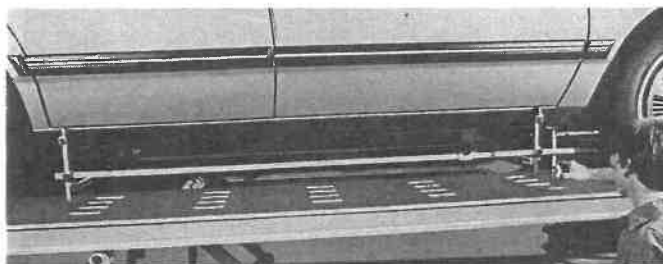

Figure IV-20
- 2) Measure from the reference point to the bottom edge of the tram gauge bar. (See Figure IV-20.) The bottom edge of the tram gauge bar corresponds with the top of the horizontal bar of the gauge.